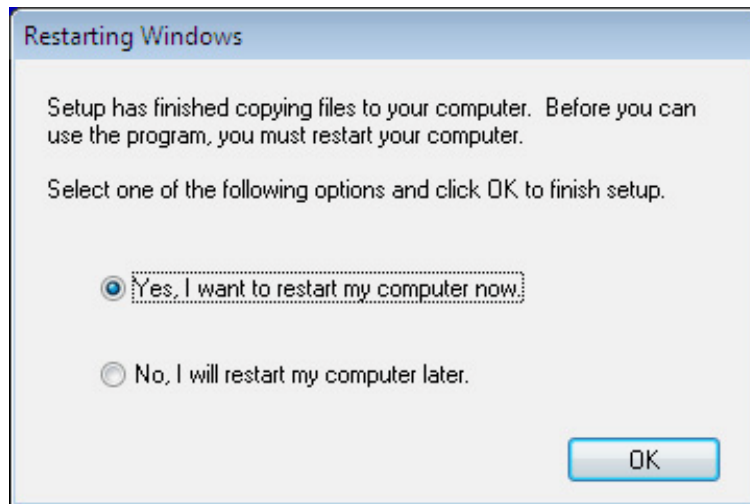

Figure 6-21: Audio Driver Installation Complete
Step 7: When the driver is installed, the driver installation finish screen in **Figure 6-21** appears. Select **“Yes, I want to restart my computer now”** and click **OK**.